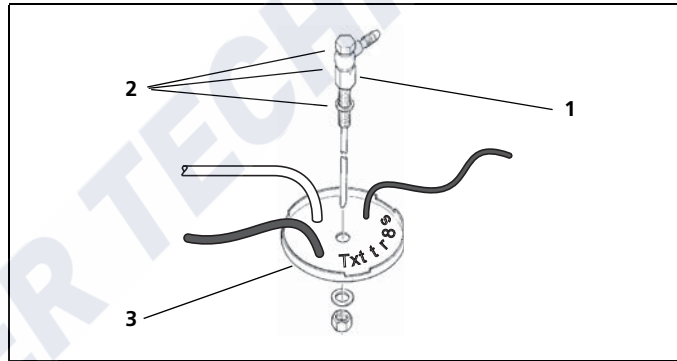

Fig. 30: Webasto fuel extractor
- 2) The fuel can be taken from the vehicle's own fuel tank or from a separate tank with a fuel extractor. See Fig. 30.